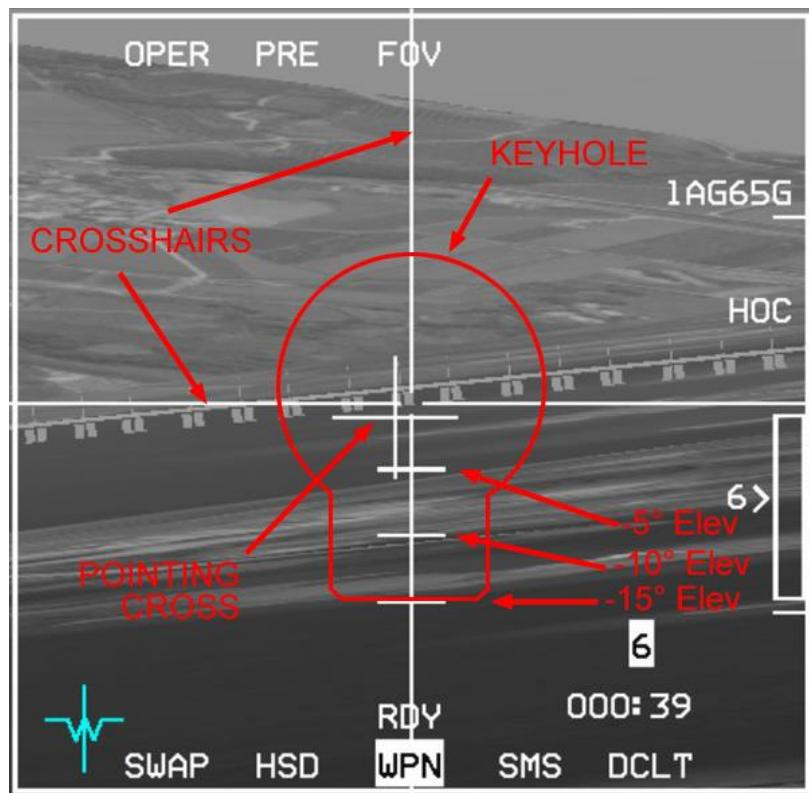

Figure 56 AGM-65D/G keyhole
2. Maximum gimbal offset angle: AGM-65A = 15°; AGM-65B = 10°; AGM-65D/G = keyhole (see Figure 56 below).